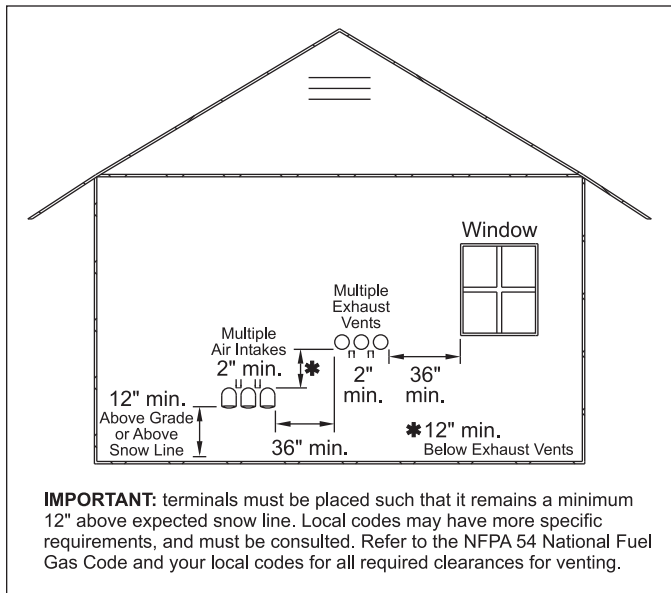

Figure 13. Multiple Side-Wall Terminals, Air and Vent.
6. Multiple vent kits should be installed such that the horizontal distance between outlet group and inlet group is 36" (90cm) (see Figure 13).